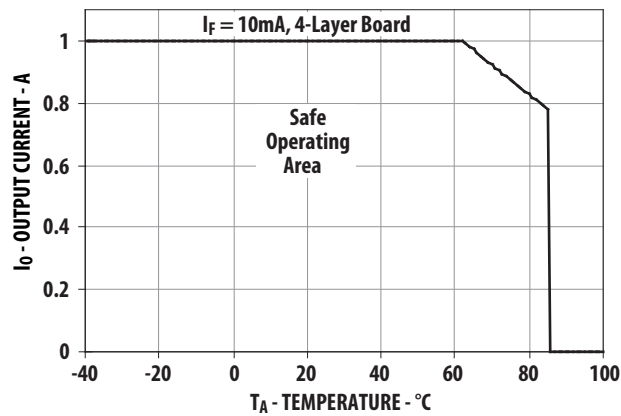

Figure 1. Maximum Output Current Rating vs Ambient Temperature (ASSR-1510-003E)
- For derating, refer to Figure 1, 2, 3 and 4.
Derating curves are shown in Figures 1, 2, 3 and 4, specifying the maximum output current allowable for a given ambient temperature. The maximum allowable output current and power dissipation are related by the expression $R_{ss}=P_o(max)/(I_o(max))^2$ from which R_{ss} can be calculated. Staying within the safe area assures that the steady state MOSFET junction temperature remains less than 125°C.